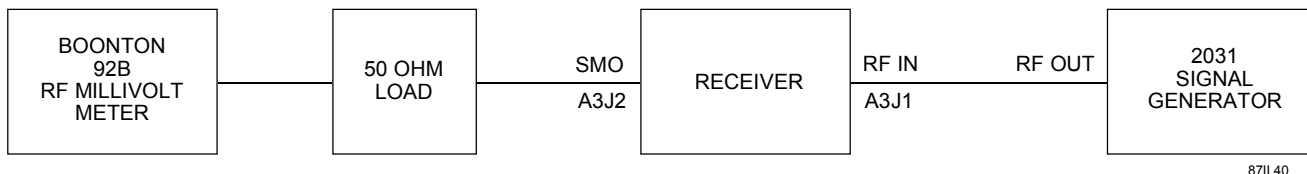

Figure 7-9. RF/ IF Signal Path Performance Test Equipment Connection
1. Connect the WJ8711A Receiver and test equipment as illustrated in **Figure 7-9**.